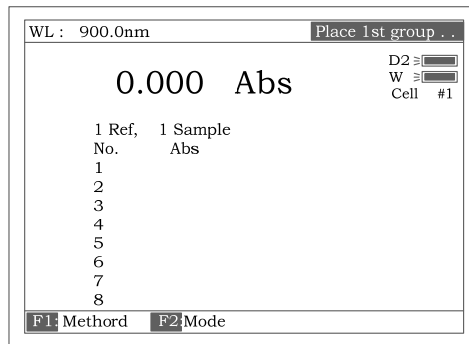

Fig 105
7. Press **[START]**, the screen display as Fig 105, the "Place 1st group..." appear on the right of top line, Press **[0Abs/100%T]**, the 8 references are